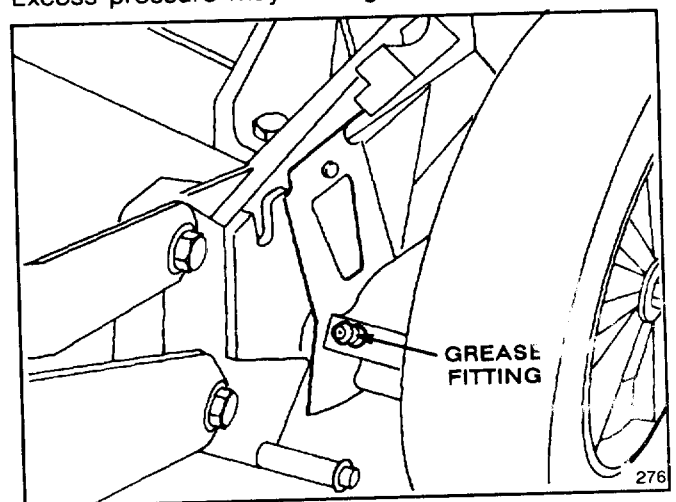

Figure 18
2. **SELF-PROPELLED MODEL ONLY**—Move rear wheel height-of-cut levers to “C” setting. Wipe grease fittings with clean rag (Fig. 18). Install grease gun onto fitting and gently apply 1 or 2 pumps of #2 Multi-Purpose Lithium Base Grease. Excess pressure may damage seals.